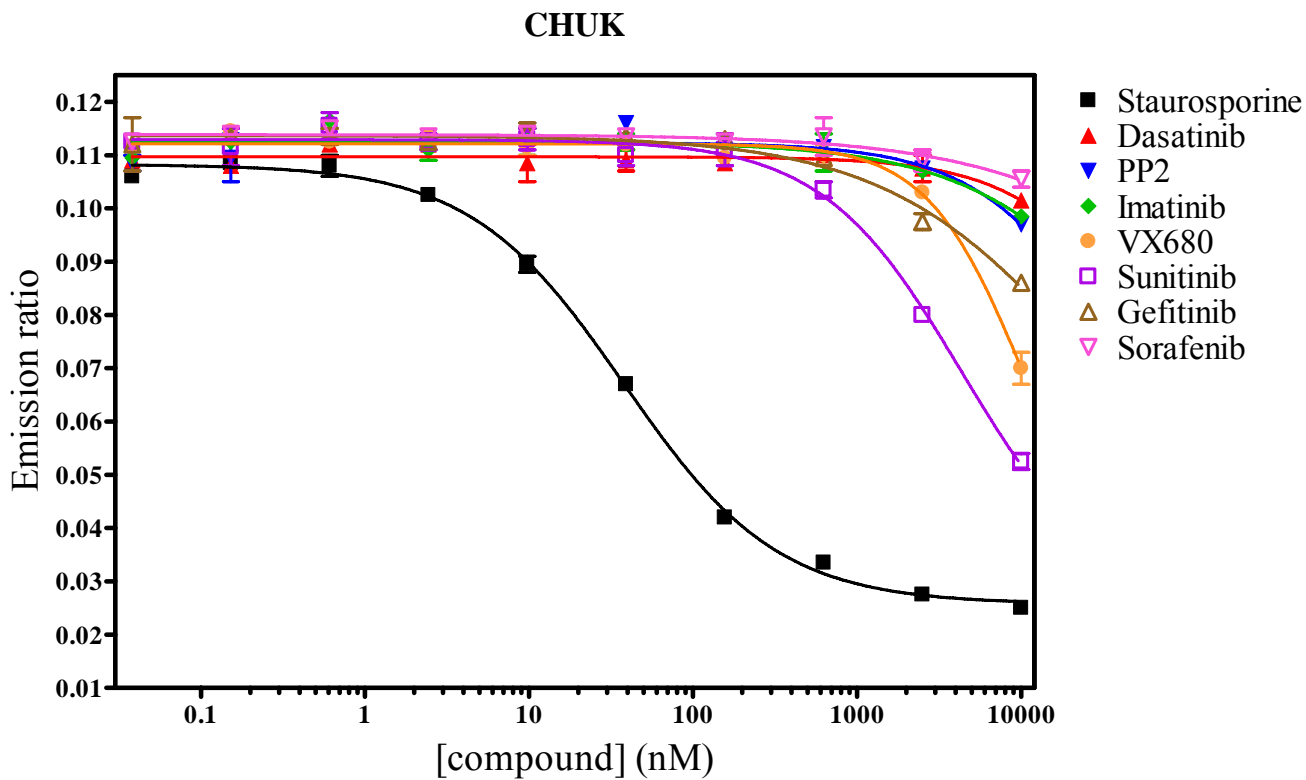

Figure 7. Representative data generated at Invitrogen.
2. Plot [test compound] versus emission ratio. The sigmoidal dose-response curve with a variable slope can be fit to the data (see section 1.3, step 2 for equation). Representative data generated by Invitrogen for a set of well-characterized kinase inhibitors is presented in Figure 7. A comparison of IC50 values to literature and in some cases internally generated data from activity-based assays (SelectScreen® profiling service) are provided as a reference in Table 1.